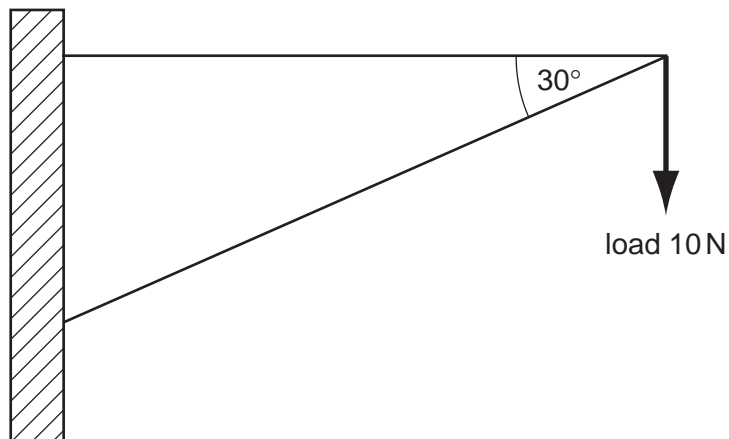

Fig. 12
- (iv) Fig. 12 shows a design for a bracket for supporting the display stand.